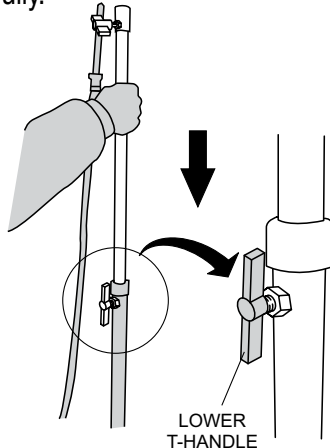

Figure 17. Lowering the Mast
1. Loosen the lower T-handle by turning handle counterclockwise (Figure 17). Push down on mast until mast is fully inserted into mast housing. Tighten T-handle fully.